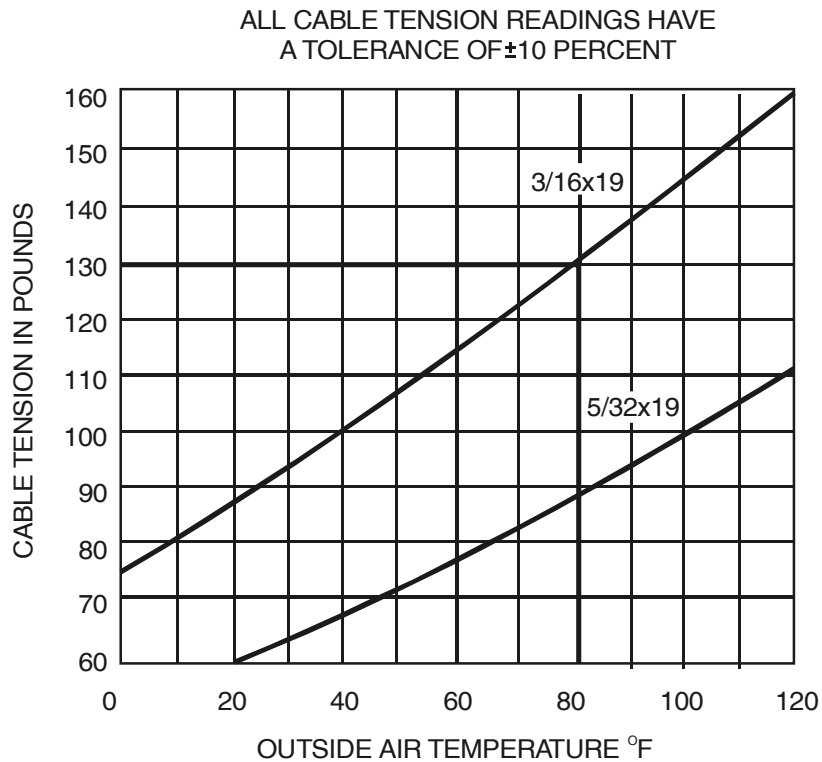

Figure 9.28.
82. (Refer to figure 9.28) When the outside air temperature is 80 °F, select the acceptable 3/16 cable tension range.